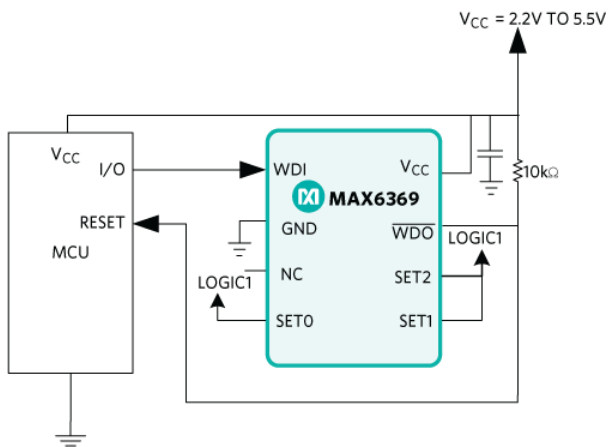

Figure 1. Application diagram of MAX6369.
Figure 1 is the application diagram of the MAX6369 interface with the MCU.
**Figure 6** shows the MAX6369 with the circuit connection in Figure 1, where SET0 =  $V_{\text{CC}}$  (logic 1), SET1 =  $V_{\text{CC}}$  (logic 1), and SET2 =  $V_{\text{CC}}$  (logic 1). The WDI is connected to the  $V_{\text{CC}}$  to observe the MAX6369 watchdog faults. The device waits for the  $t_{\text{SETUP}}$ ,  $t_{\text{DELAY}}$ , and  $t_{\text{WD}}$  to assert the WDO pulse after power-up. It keeps toggling the WDO pulse after  $t_{\text{WD}}$ .